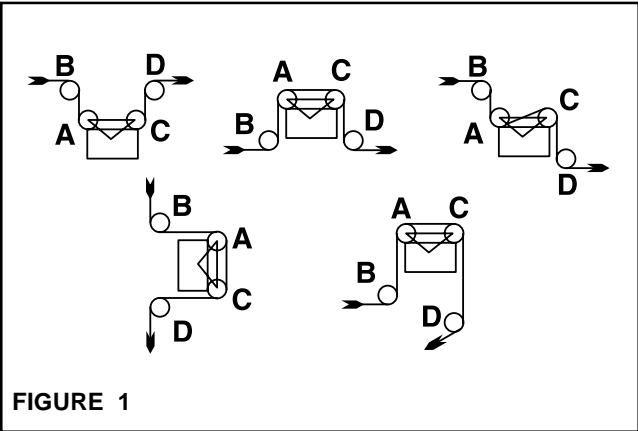

FIGURE 1
- 1. Position the Web Guide as close as possible to the critical area to which the web is being guided. Any roll between the lead out roll **D** and the critical area will detract from guiding accuracy (See Figure 1).
- 2. Find the web path to be used (See Figure 1).